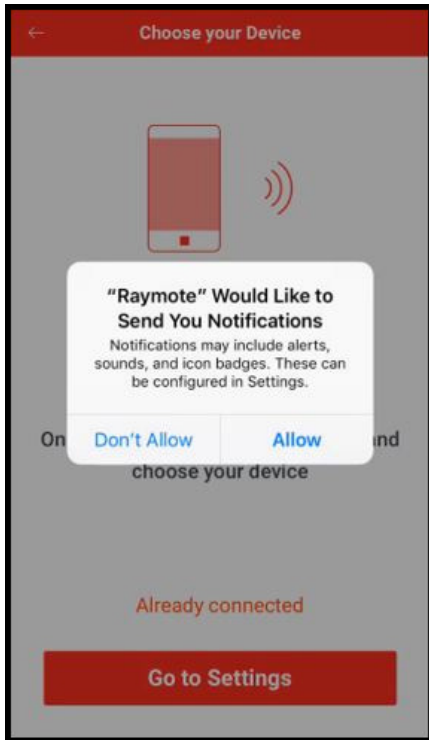

Figure 96. Grant Permission
**NOTE:** The first time you use a new phone, the Raymote mobile app will require you grant permission to access data. See Figure 96.